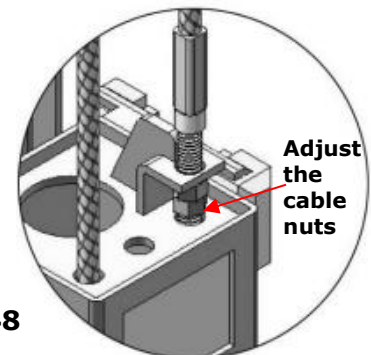

Fig.48
1. Adjustment of synchronous cable (See Fig. 48)